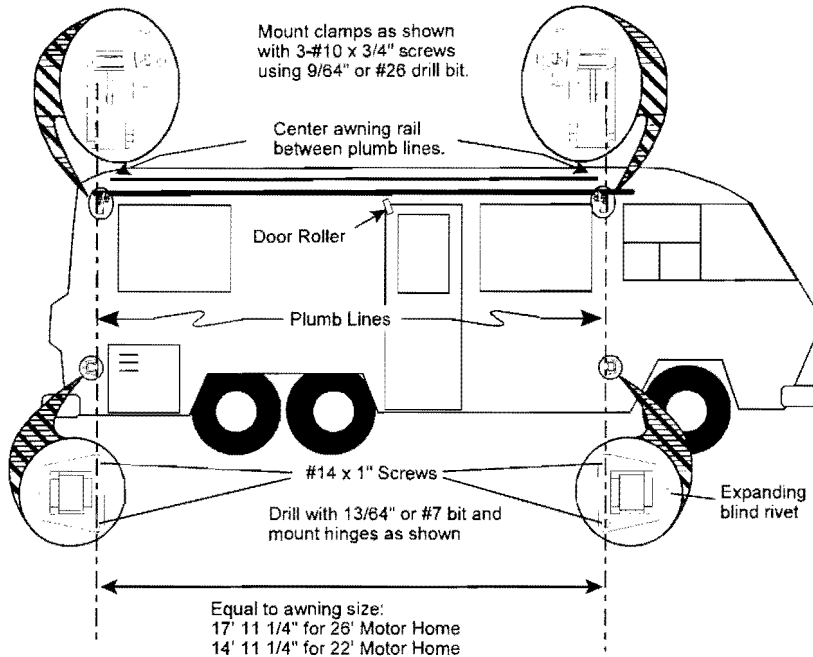
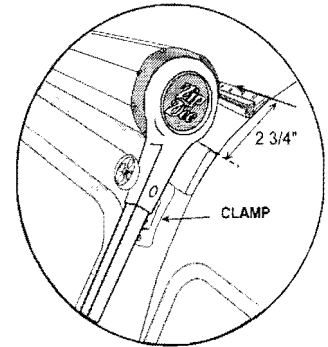

Fig. 3
Fig. 4a
Fix the position of the rear arm first. Mark the rear plumb reference line 1/2" from the rear edge of the compartment as shown in **Fig. 3**. Then **measure forward the Exact length of the awning ordered** and mark the front plumb line.
Place rail with the top edge 2 3/4" above the top molding as shown in **Fig. 4a & b**. Rail should be centered between the two plumb lines. Be sure that running light wire is flat under awning rail. Attach rail with appropriate
A) Attach front Head casting to front main arm. Attach Clamp Casting assembly on to head (wheel screws onto threaded stud of clamp and fit into chaffered seat of head. Hold assembled arm firmly against the coach so that the clamp is butted against the bottom of the drip molding as shown in **Fig. 4a & 4b** and so that the hinge and clamp are aligned on the plum line as shown in **Fig. 3**. Mark location of clamp and hinge. Remove the clamp and hinge from the hardware and mount as shown. Repeat step for rear arm.